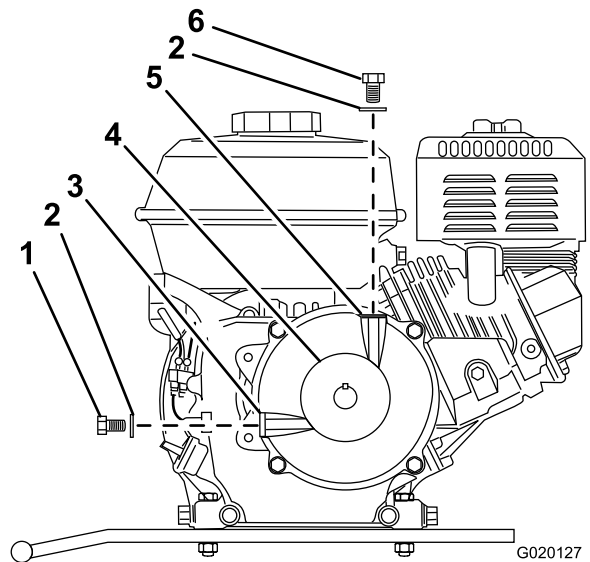

Figure 54
3. Remove the filler bolt and washer from the filler port on the top of the reduction case (Figure 54).
4. Remove the oil-level-check bolt and washer from the oil-level port in the side of the reduction case (Figure 54).
9. Install the oil-level-check bolt and washer to the oil-level port of the reduction case, and tighten the oil-level-check bolt (Figure 54).
10. Install the filler bolt and washer to the filler port of the reduction case, and tighten the filler bolt (Figure 54).